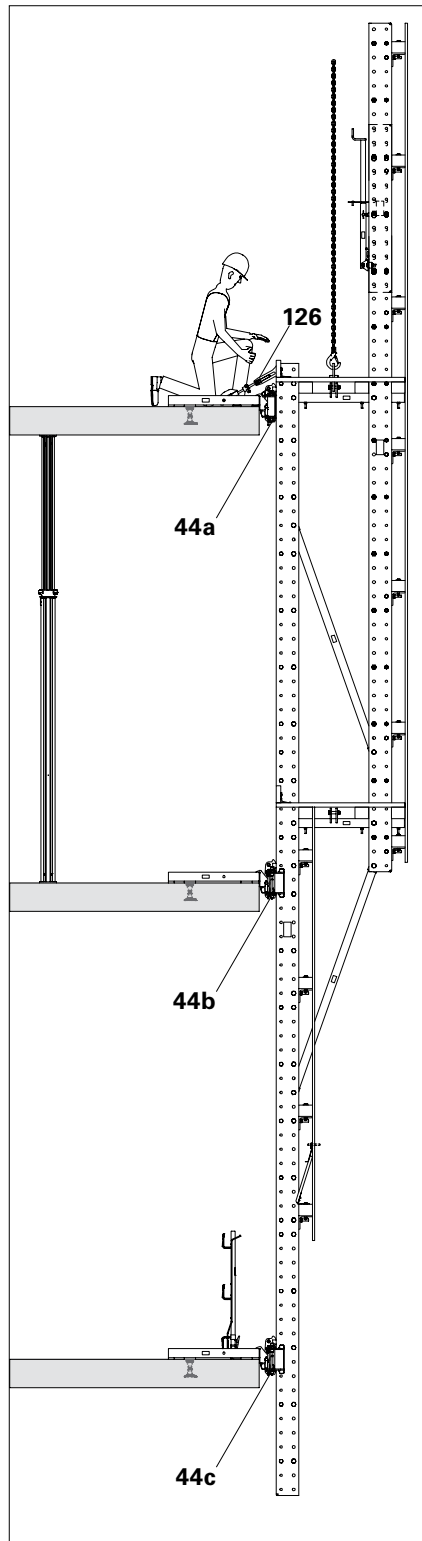

Fig. D3.02
6. Lower the Climbing Unit until the Spacers are fully load-bearing on the climbing pawls of the middle Slab Shoe (44b). (Fig. D3.02)